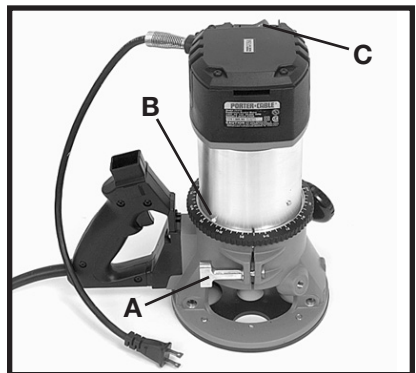

Fig. 3
2. Loosen clamp screw (A) Fig. 3 to allow the power unit to be set in the base unit.
3. With the motor switch (C) positioned as shown in Fig. 3, insert the motor unit into the base aligning lower pin (B) with groove in base.